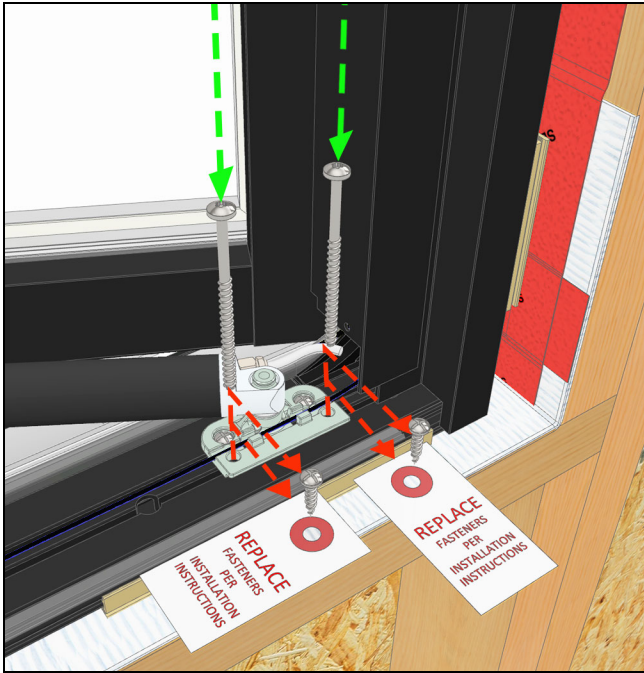
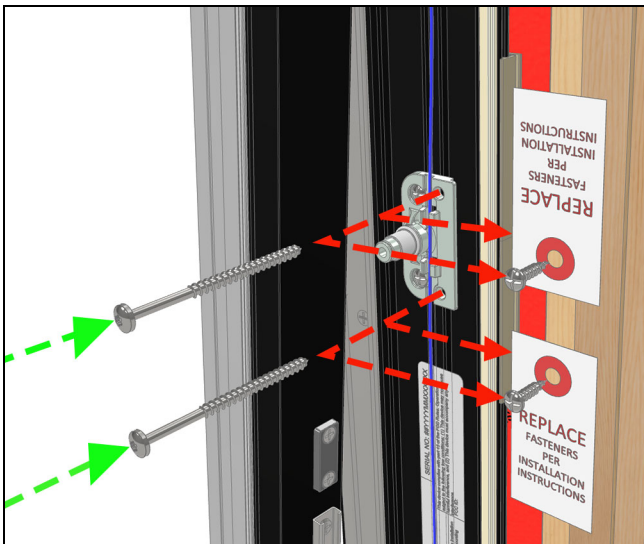

Figure 35 Automated frame bracket on Casement
Figure 36 Automated frame bracket on Awning
1.B. Replace the two labeled short screws in the automated frame bracket with 3" screws. See Figure 35 and Figure 36.